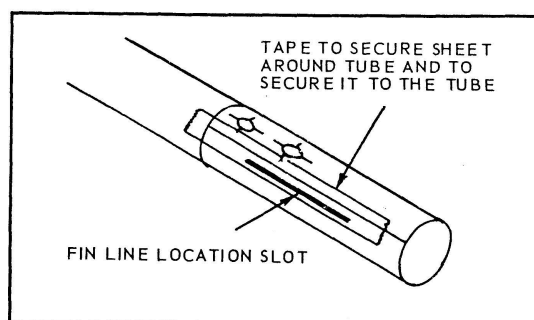

FIGURE 2
Step 3. Cut out hole pattern sheet and cut out circles (use hole punch, if available) and fin location slots as directed. Wrap the pattern around the tube and tape the sheet so the bottom is flush (even) with one end of the 12" tube. See Figure 2. **This is the most important step - the holes must be well aligned or your rocket will not fly correctly.**